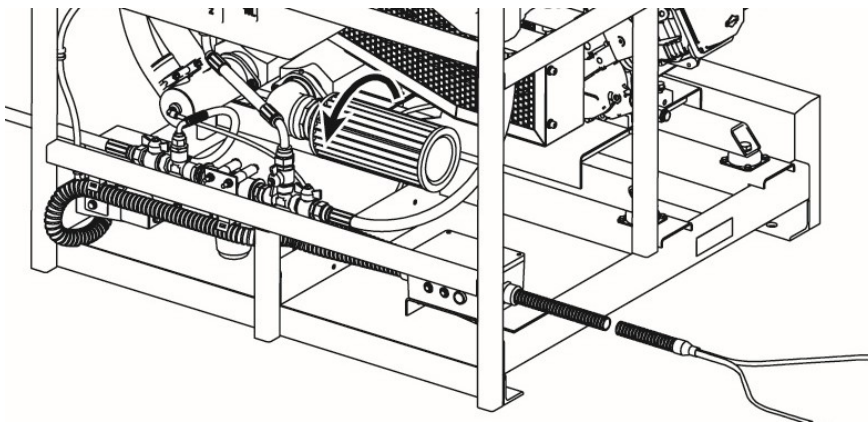

Fig. 11 – Air Filter (Cover Removed)
1. Locate the pressure switch mounted on the T-piece at the outlet of the pump – see Fig. 11. Slide the black cover away from the switch body, taking care not to disconnect the two wires.